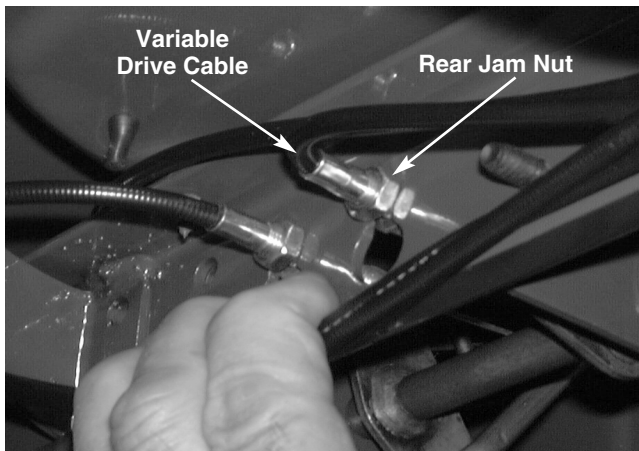

FIGURE 4.
- 14). Locate and loosen the variable drive cable adjustment jam nuts using two 1/2" wrenches. See Figures 4 and 5.
- 15). By hand, loosen the rear jam nut (closest to the deck) until it bottoms out on the threaded cable end. See Figure 4.
- 17). By hand, tighten the rear jam nut (clockwise) until it is snug up against the rear of the front channel assembly. See Figure 4.
- 29). Locate and loosen the variable drive cable adjustment jam nuts using two 1/2" wrenches. Refer to Figures 4 and 5.